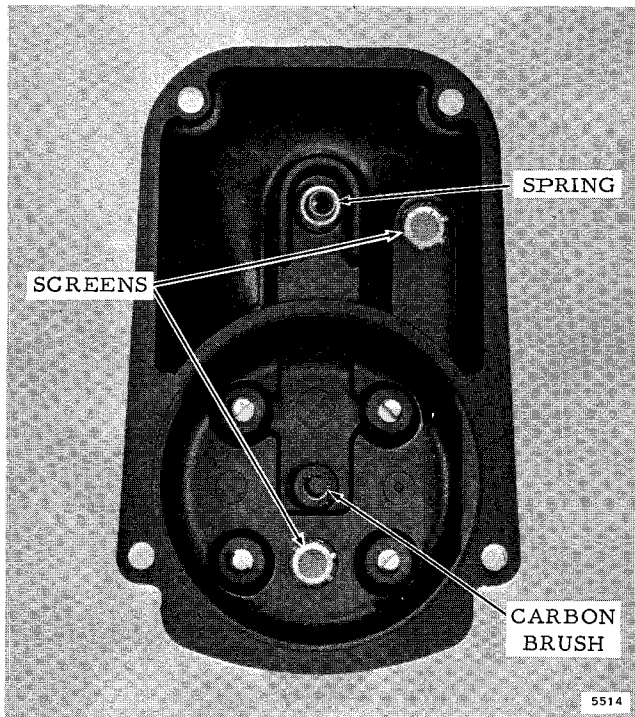

Figure 4-7. Carbon Brush and Spring
d. Remove distributor cap and gasket from housing, and remove rotor. See Figure 4-7.